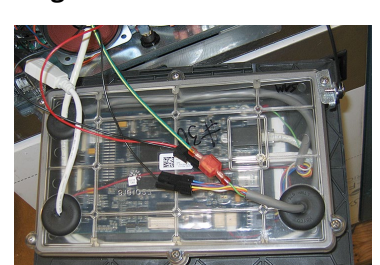

Figure 6
7. Disconnect the other cables from the connectors on the back of the controller marking their position for reassembly (see Figure 6).